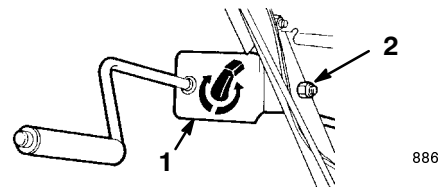

Figure 10
- Assemble the chute control bracket and rod to the left side of the handle with a cap screw and a locknut. Leave the locknut loose (Fig. 10).
5. Tighten the locknut that secures the chute control bracket (Fig. 10).